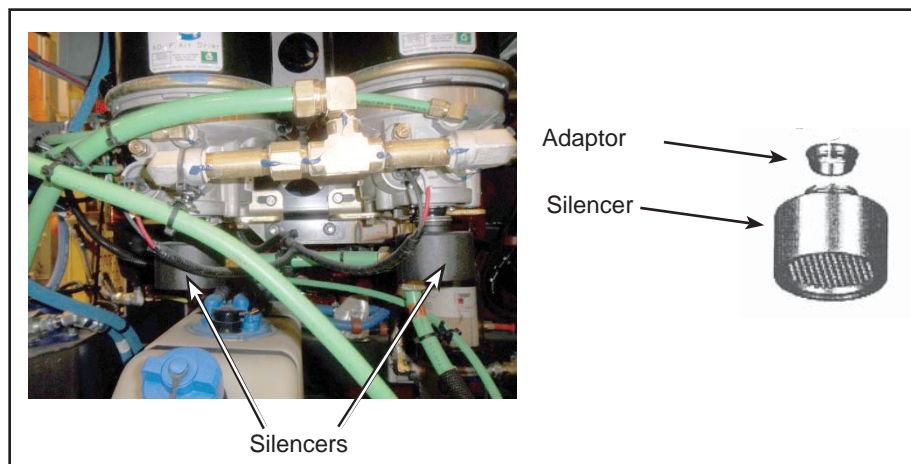

Figure 2 - Air Dryer Silencers Location
- 1.3. Locate the two silencers installed underneath the two air dryers. See Figure 2.
- 1.4. Remove the two silencers and the two adapters. See Figure 2. Discard the removed parts.